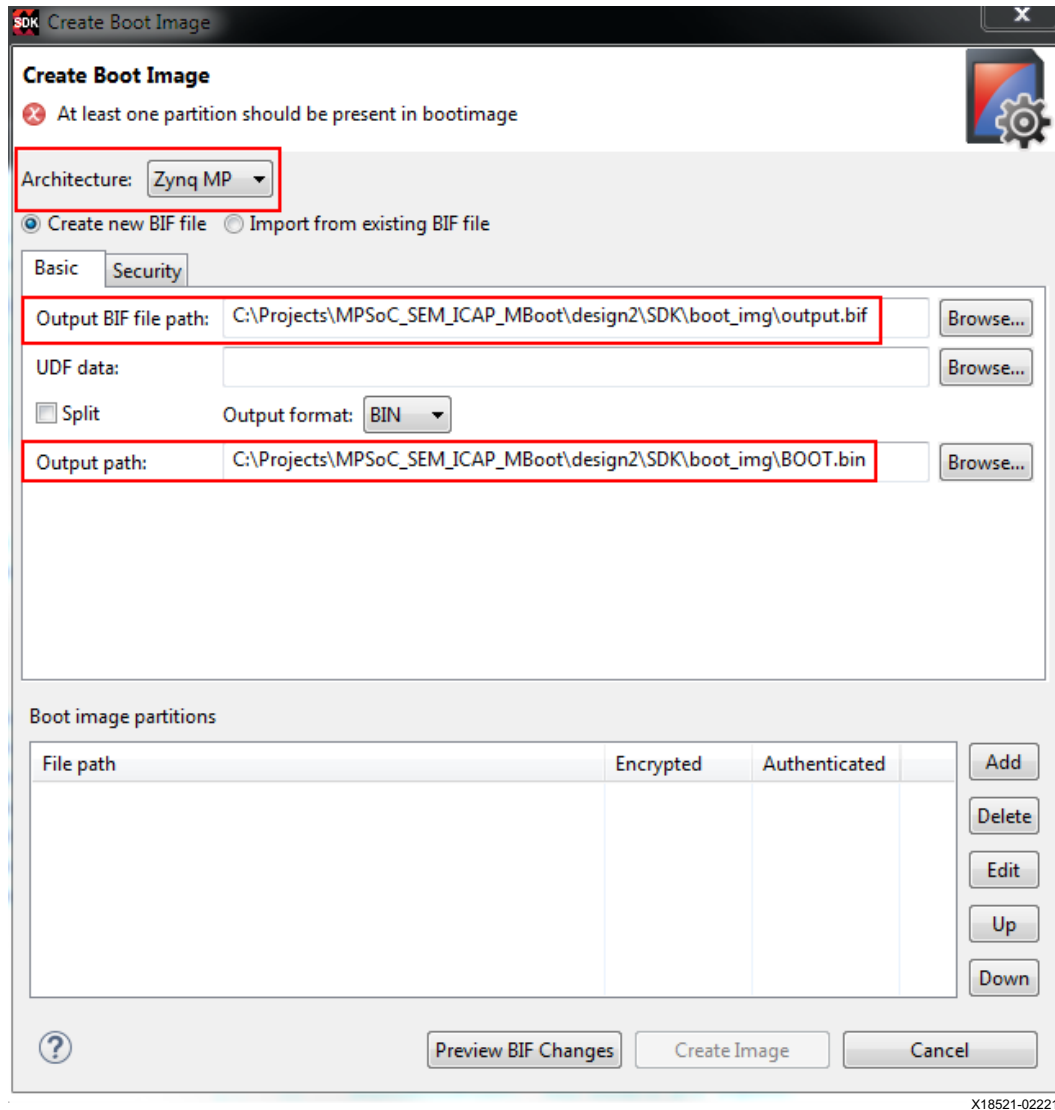

Figure 27: Design 2 - Create Boot Image
- a. Verify the Output path is the same as the Output BIF file path. See Figure 27.